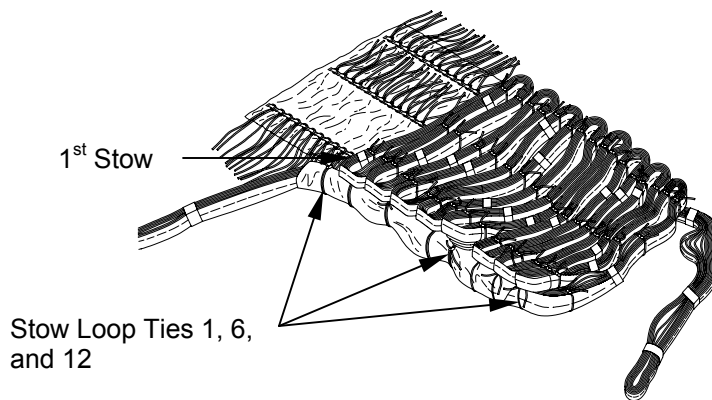

Figure 8. Extraction Line Routed to Left Side of Bottom Panel.
- h. Route extraction line to the lower left side of the top panel. Make first line tie in bottom left corner of top panel (figure 8).